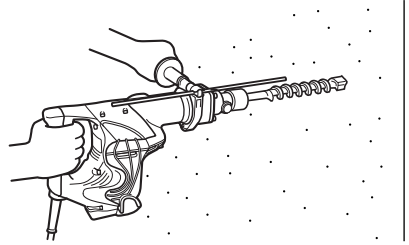

Fig. 5
1. How to drill holes (Fig. 5)